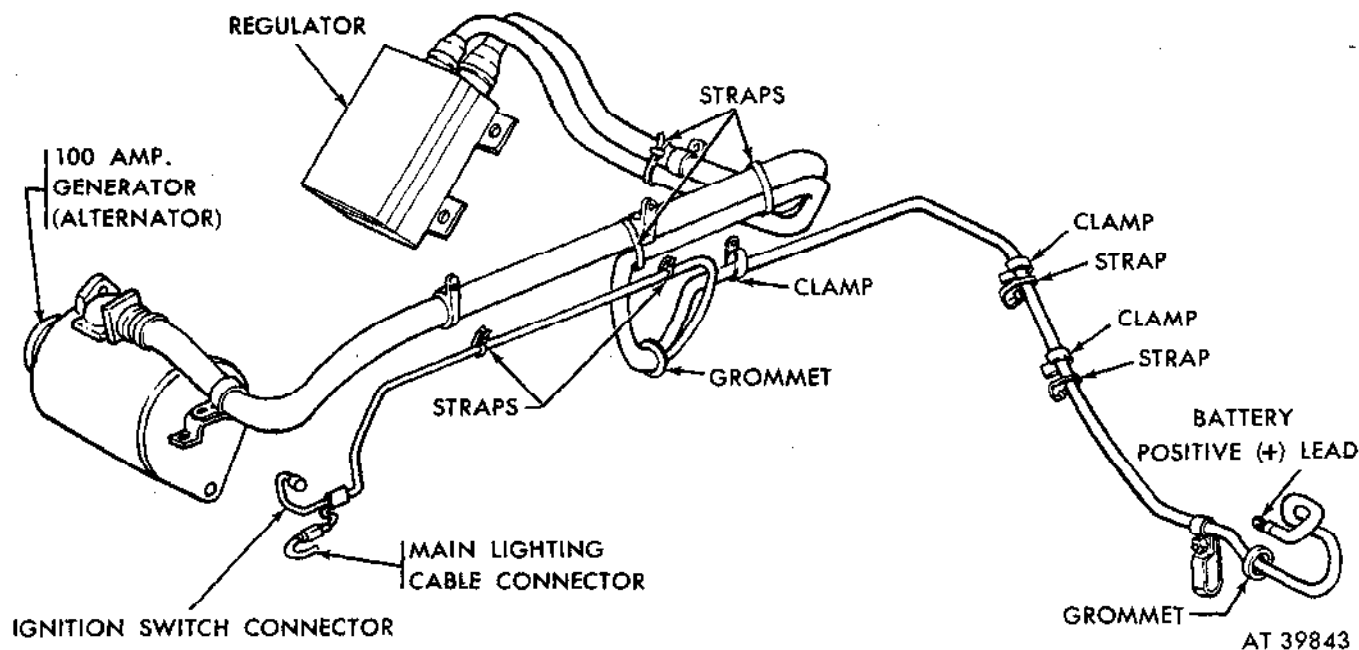

Figure 3-25. 100 Ampere generating system components.
a. *General.* The 100-ampere charging system (fig. 3-25) is used when the electrical requirements of special equipment such as radio transmitters exceed the capabilities of the standard 25-ampere charging system. The system consists of two major components; and alternating current generator which is in the same location as the standard generator; and a regulator which is located in the engine compartment on the right fender. The basic difference between this system and the standard system is that the generator unit produces alternating current rather than direct current. Since alternating current cannot be used to charge storage batteries or supply current directly to the vehicle electrical system, an internal rectifier is incorporated in the generator to convert the alternating current to direct current. All components of the system are waterproofed or sealed so vehicles with this equipment may be used for fording.
b. *Alternator.* The 100 ampere alternator (fig. 3-25) is driven by four belts. Externally it is not
c. *Regulator.* The solid state regulator (fig. 3-25) is a hermetically sealed unit and is not affected by water. It contains a load relay which connects the generating system to the vehicle batteries when the ignition switch is turned on. The load relay also connects the generator fields to the batteries for initial excitation. The regulator contains a carbon pile type voltage limiter which controls the generator field current and thus limits the system voltage. The voltage limiter is adjusted externally by a variable resistor located in the base of the regulator.